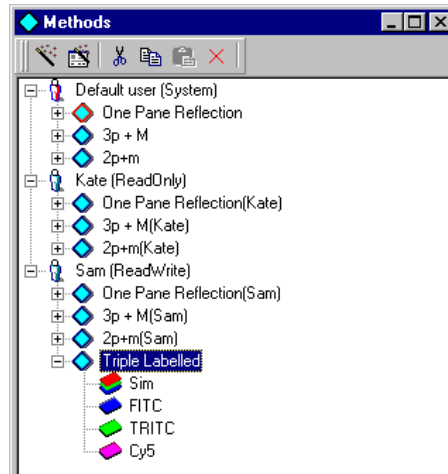

Figure 27 Methods Window, logged in as System User
In Fig. 27, all three Users with the three different User access levels are shown in the Methods Window – “Default user”, “Kate” and “Sam” (c.f. Fig. 1, when User “Sam” was logged in).
1. Highlight the Method as shown in Fig. 27